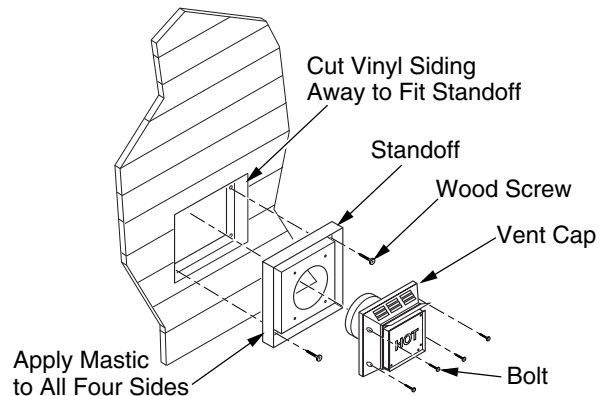

Figure 26 - Installing Vinyl Siding Standoff (Combustible Exterior Wall)
- If installing horizontal vent termination cap on an exterior wall with siding, you must use a vinyl siding standoff (see Figure 26, page 14).
Combustible Exterior Wall: For vinyl siding, stucco, or wood exteriors, a siding standoff must be installed between the vent cap and exterior wall. The siding standoff prevents excessive heat from damaging siding materials. Siding materials must be cut to accommodate standoff. Bolt the vent cap to the standoff. Apply non-hardening mastic around outside edge of the standoff. Position the standoff/cap assembly in the center of the 10" (25.4cm) square hole and attach to exterior wall with wood screws provided (see Figure 26). The siding standoff must sit flush against the exterior fascia material.